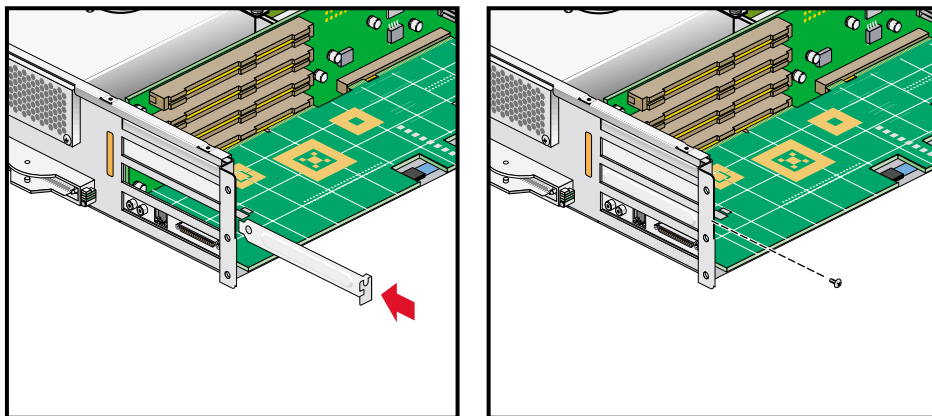

Figure 4-14 Replacing a Blanking Plate
13. Place a blanking plate to cover the slot where you removed the card, and screw in the retaining screw, as shown in Figure 4-14. After installing the blanking plate, if you have removed a card from one of the two lowermost slots, proceed to the next step. Otherwise, proceed to step 14.